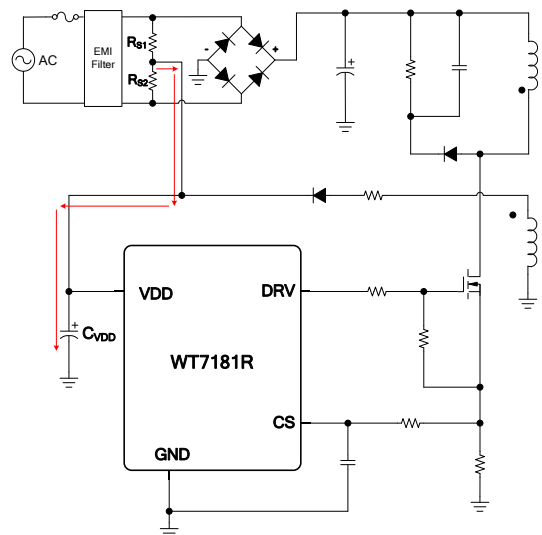

Fig. 5.1
The typical start-up current is 1.5 μ A. Very low start-up current allows the PWM controller to increase the value of start-up resistor and then reduce the power dissipation on it. To minimize power loss, it's recommended to connect the start-up circuit to the bleeding resistors, as shown in Fig 5.1. At startup, R_{S1} and R_{S2} will provide the startup current to charge the capacitor C_{VDD} which connected to VDD until this VDD voltage reaches the UVLO (ON) threshold to turn on the WT7181R and further to deliver the gate drive signal. It will enable the auxiliary winding of the transformer to provide supply current. A hysteresis is built in to prevent the shutdown from the voltage dip during startup. Besides, recommended that the VDD capacitor C_{VDD} connected with VDD pin is in the range from 3.3 μ F to 4.7 μ F.